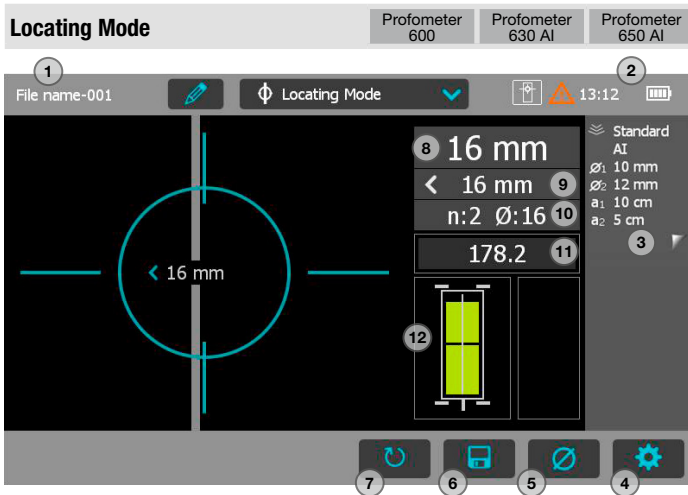

Figure 7: Locating Mode
- At this position you may also measure the diameter either by pushing B on the right side of the probe or 5 (see Figure 7) on the Touchscreen unit (e. g. when the probe is fixed to the telescopic extension rod).